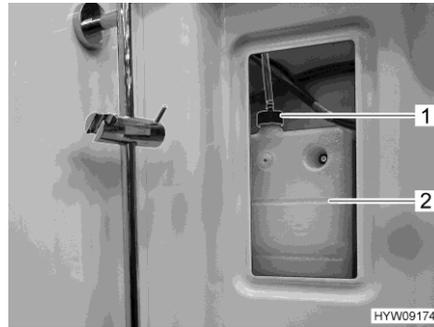
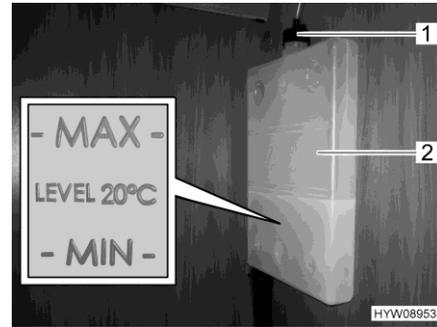

Fig. 212 Compensator reservoir (hot-water heater)
Fig. 213 Marking "MIN/MAX"
- Remove the cover for the compensator reservoir (Fig. 212,2) in the right-hand upper part of the shower.
- Check if the fluid level is between the marks "MIN" and "MAX" (Fig. 213) on the compensator reservoir (Fig. 213,2).
- Open the rotary lid (Fig. 212,1 or Fig. 213,1) on the compensator reservoir.